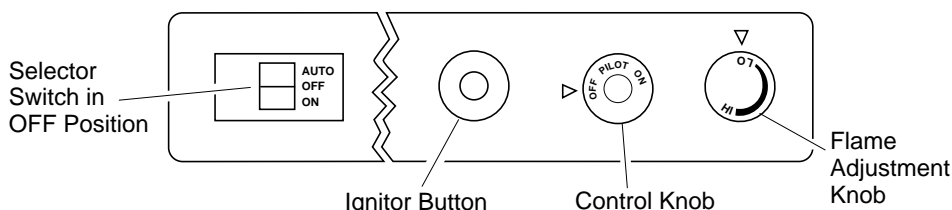

Figure 36 - Control Knob and Ignitor Button Location (Shown as Supplied, No Control Options)
5. Wait five (5) minutes to clear out any gas. Then smell for gas, including near the floor. If you smell gas, **STOP!** Follow "B" in the safety information. If you don't smell gas, go to the next step.
6. Press in and turn control knob counterclockwise  to the PILOT position. Press in control knob for five (5) seconds (see Figure 36).